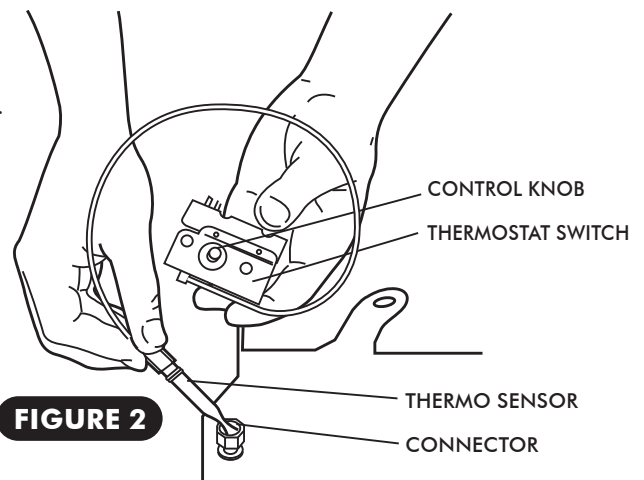

FIGURE 2
- INSERT SENSOR INTO CONNECTOR ON RADIATOR AND HAND TIGHTEN NUT. SEE FIGURE 2.
- ROTATE THERMOSTAT CONTROL KNOB FULLY CLOCKWISE. SEE FIGURE 2.